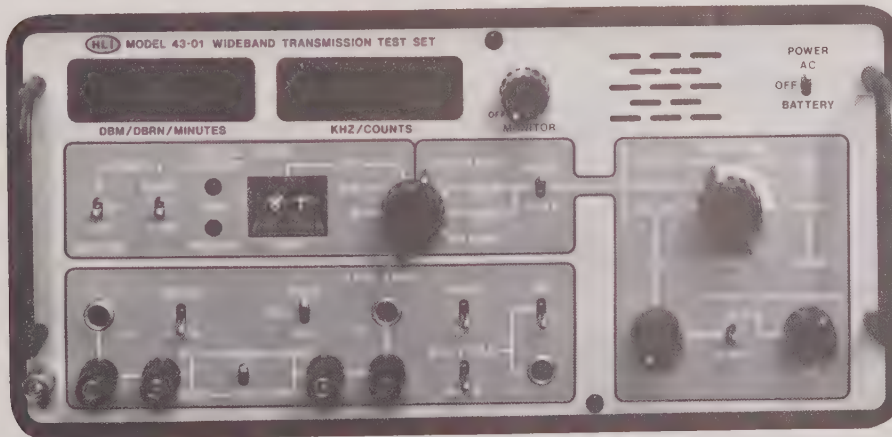

Figure 11. Self - Test
10.01 This section describes the procedure for self-testing the Model 43-01. These procedures are to be used for self-test purposes only, and are not intended for calibration. A looping cord is required to do the self-test. Perform the following self-test procedures in sequence. Refer to Figure 11.